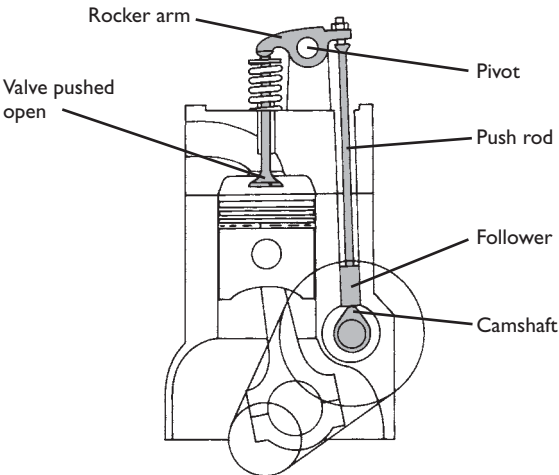

Figure 5.15 Overhead valve with pushrods and rockers
- Overhead valve with push rods and rockers (Figure 5.15). This method is now less popular than it used to be, but many vehicles still on the road are described as overhead valve (OHV). As the cam turns, it moves the follower, which in turn pushes the push rod. The push rod moves the rocker, which pivots on the rocker shaft and pushes the valve open. As the cam moves further, it allows the spring to close the valve.